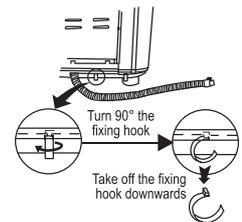

Figure 3
2. Turn 90° the drain hose fixing hook to remove it from the installation hole. (See Figure 3.)